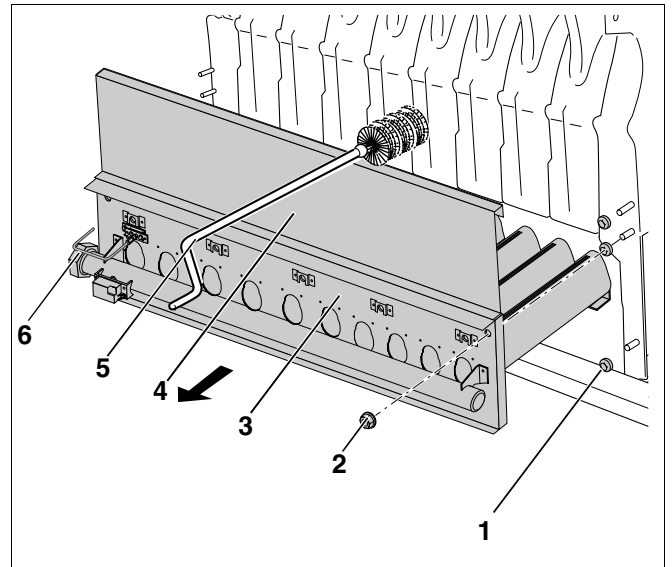
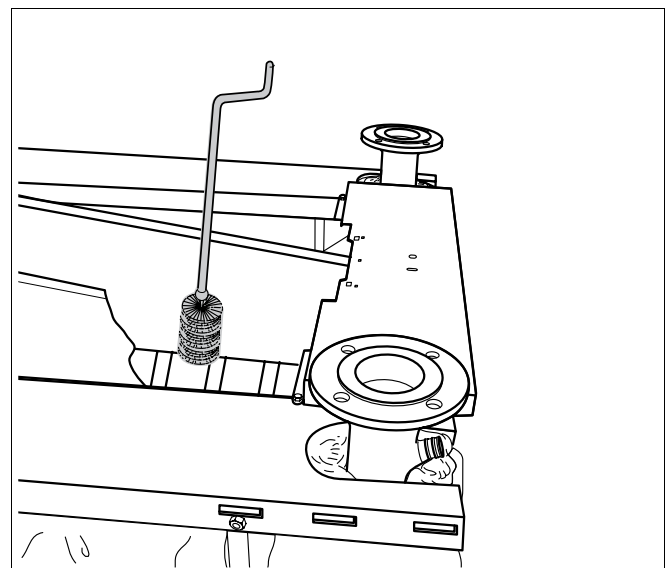

Fig. 17 Removing the gas burner and cleaning the boiler block
Fig. 18 Brush cleaning
- Separate the gas burner at the fitting (Fig. 17, **Item 6**) from the gas train.
- Release the fixing nut (Fig. 17, **Item 2**) on the burner shield (Fig. 17, **Item 3**), and remove the gas burner.
During the removal of the gas burner ensure, that the spacers (Fig. 17, **Item 1**) remain on the threaded studs.
You can remove the gas burner clean-out cover (Fig. 17, **Item 4**) only after the gas burner has been removed.
- Release the hexagon nuts from the clean-out cover (Fig. 17, **Item 4**) and remove the cover.
- Alternately brush out the hot gas flues several times from the side (horizontally) and from above using the cleaning brush (see Fig. 17 and Fig. 18).